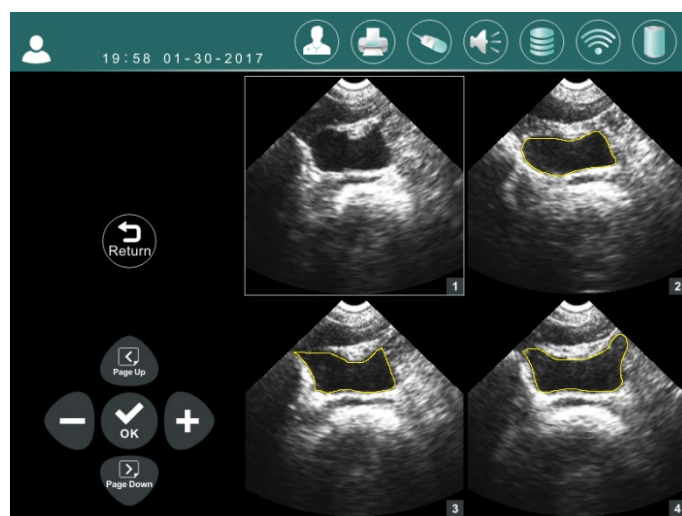

Figure 7-12 Scanning Result Correction Interface
7.8.1 Scanning result correction interface is shown in figure 7-12.